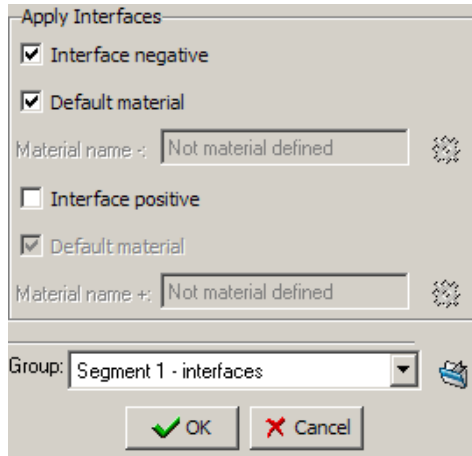

Figure 1.9 The *Apply Interface elements* window
- Double click the *Interfaces* option in the data tree. The *Apply Interfaces* window will be opened (see Figure 1.9).